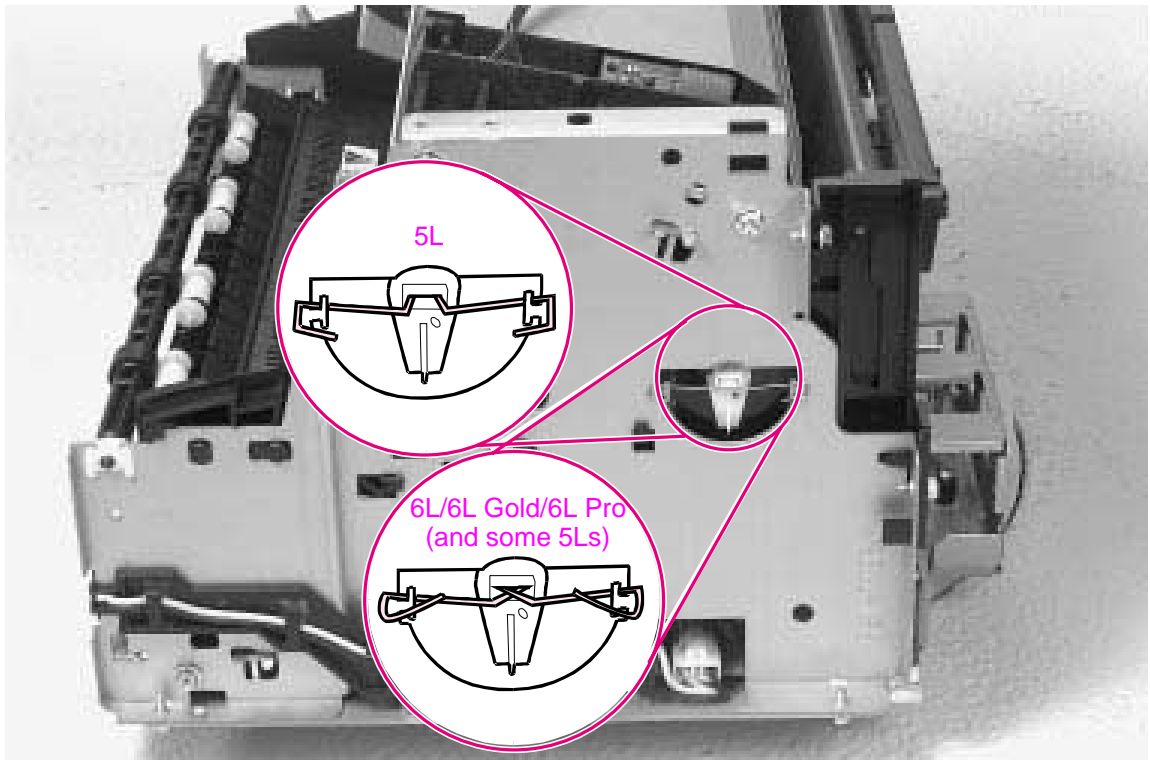
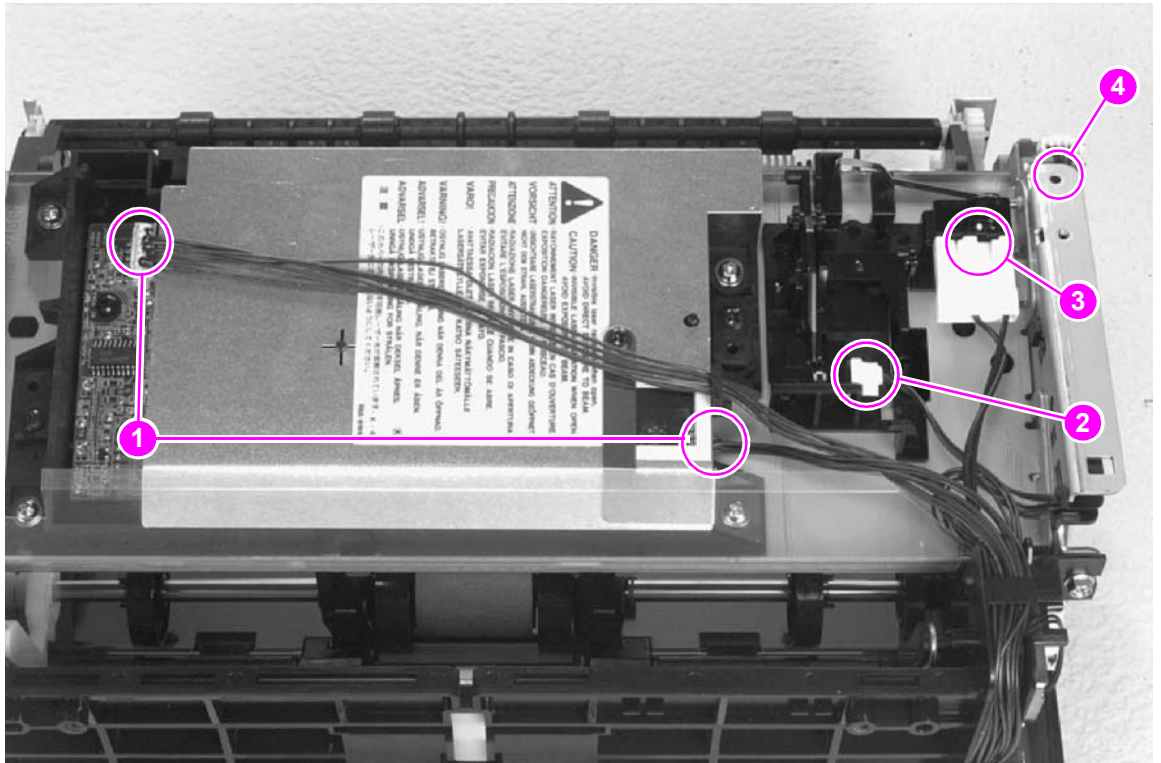
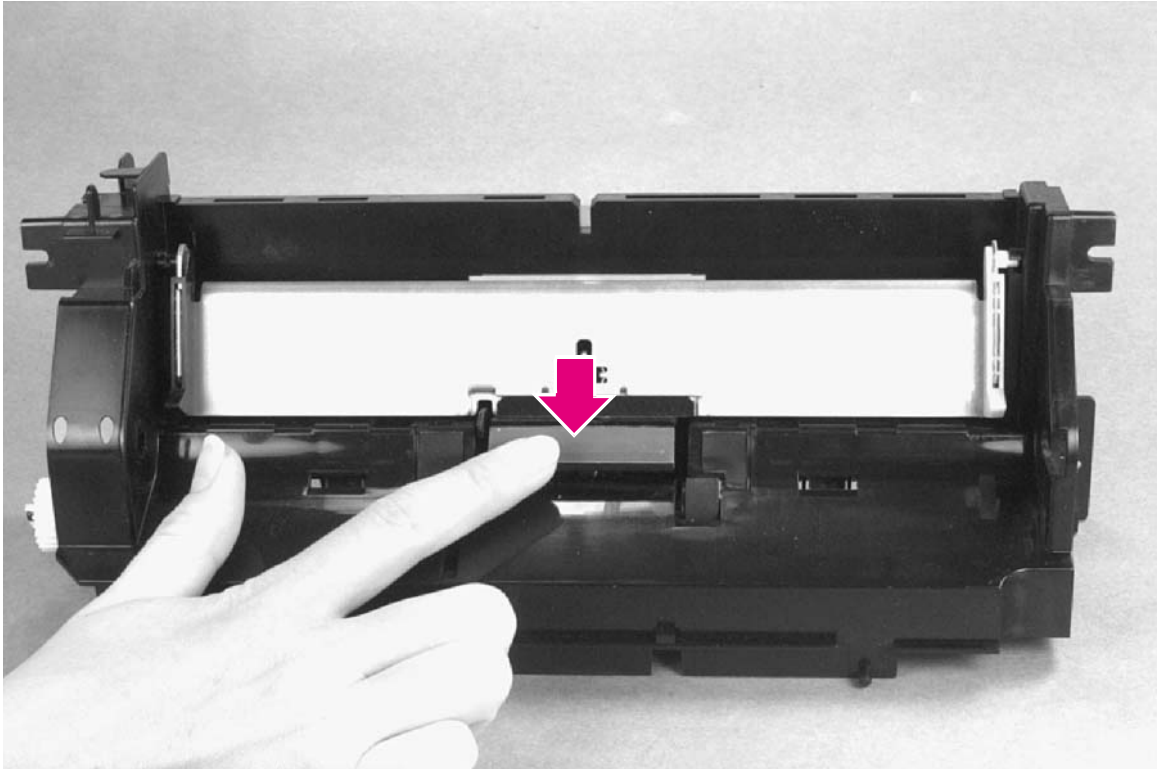

Figure 6-23 Pickup Roller Assembly removal (1 of 2)
Figure 6-26 Paper Feed Frame removal (1 of 4)
Figure 6-31 Kick Plate removal
- 3 Remove the pickup roller grounding clip on the right of the printer by lifting each end of the clip up and over the two metal guides and sliding the clip off. Figure 6-23 depicts the clip from an HP LaserJet 5L. The clip from an HP LaserJet 6L (and some HP LaserJet 5Ls) is shaped differently.
- 2 Remove the Pickup Roller Assembly (Figures 6-23 through 6-24).
- Two connectors from the Laser/Scanner (Figure 6-26, callout 1)
- Connector from Top Cover/EP Cartridge Sensor on HP LaserJet 5L only (Figure 6-26, callout 2)
- Connector from Switch 101 (Figure 6-26, callout 3)
- Connector from Front Control Panel (Figure 6-26, callout 4)
- 1 Remove the Printer Covers, Pickup Roller Assembly (Figures 6-23 through 6-25), and Paper Feed Frame (Figures 6-26 through 6-29).
- 1 Remove the Printer Covers and the Pickup Roller Assembly (Figures 6-23 and 6-24).
- 2 Press the Separation Pad (Figure 6-31). Allow the Kick Plate to pivot upward (a spring underneath will push it up). Lift the Kick Plate off its mounting pins.
- 1 Remove the Printer Covers, Pickup Roller Assembly (Figures 6-23 and 6-24), and Kick Plate (Figure 6-31).